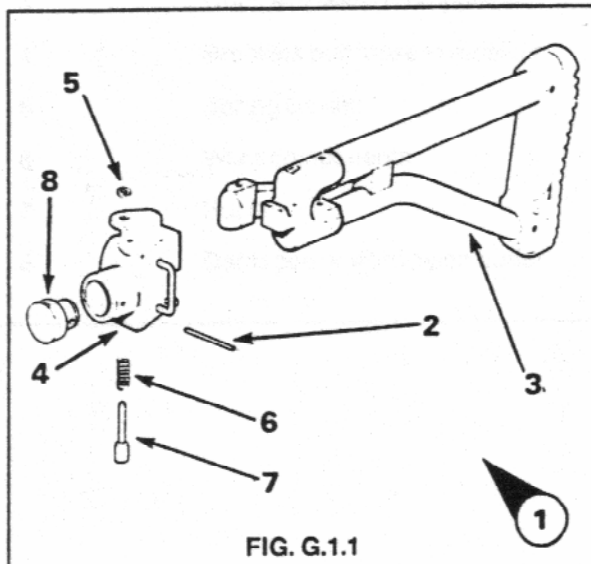

FIG. G.1.1
3. The butt assembly consists of the following components as illustrated in Fig. G.1.1.